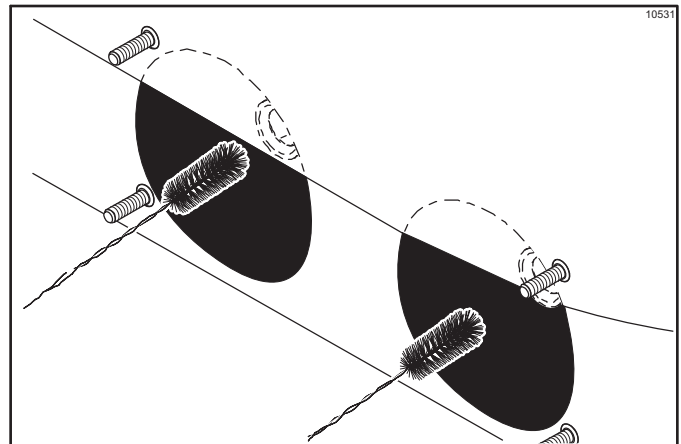

Figure 6-43
- Return to the freezer with a small amount of cleaning solution. Using the black brush, clean the rear shell bearing at back of each freezing cylinder. (See Figure 6-43.)